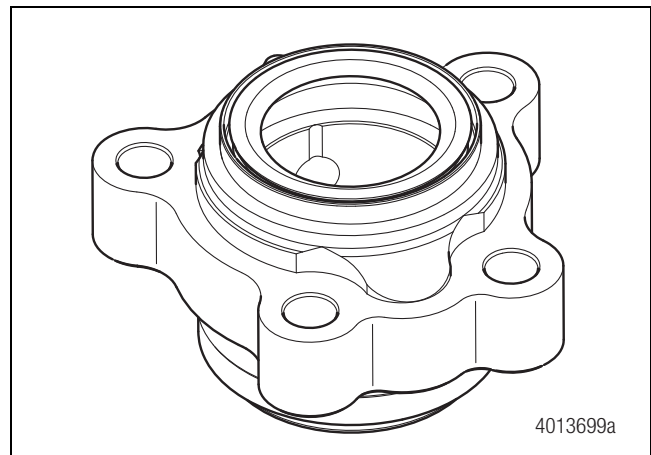

Figure 11.40
- 5. Place the bolt-on bushing housing in a vise or other suitable device to hold it securely when the seals and bushing are removed. Figure 11.40.